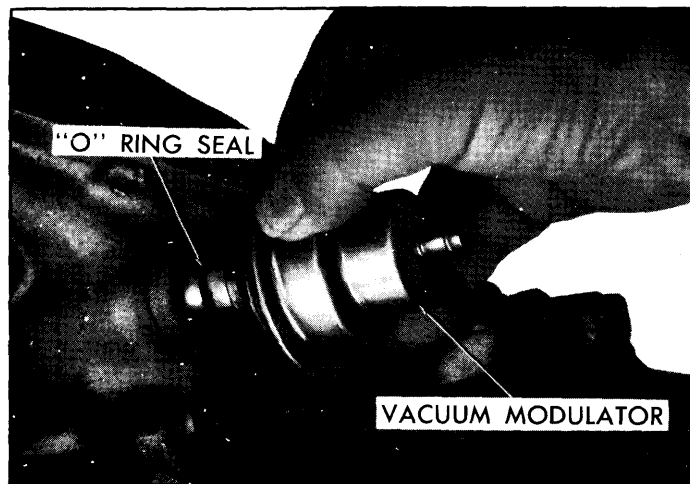

Fig. 7-11—Remove Vacuum Modulator Assembly
4. Remove vacuum modulator assembly, "O" ring seal, and modulator valve from case. (Fig. 7-11) Discard "O" ring.